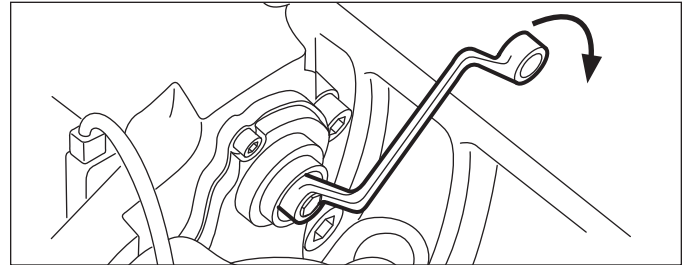

FIGURE 21 - APPLYING MODERATE APPLICATIONS OF THE BRAKES: THE WRENCH MOVES CLOCKWISE AS THE RUNNING CLEARANCE IS DIMINISHED
4.2.3 Where the adjuster mechanism is able to be backed-off normally, position a box-end wrench on the shear adapter so that it can turn clockwise freely without coming into contact with parts of the vehicle (See Figure 21). Make five to ten moderate applications of the brakes [at about 30 psi (2 Bar)], and observe that the box-end wrench or socket should turn clockwise in small increments.